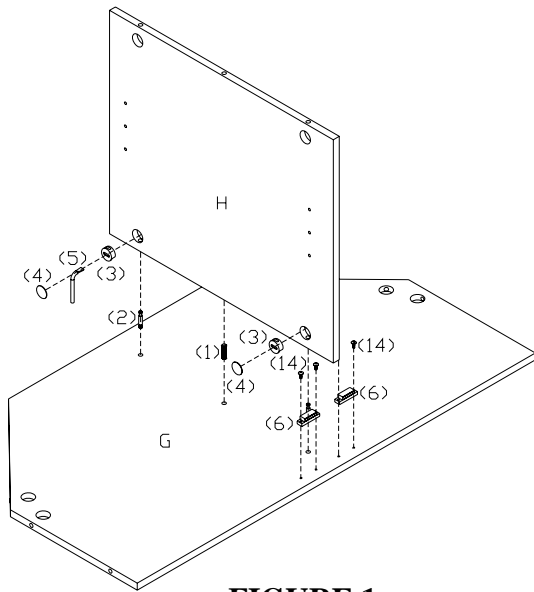

FIGURE 1
3. INSERT WOOD DOWEL (1), CAM-BOLTS (2) INTO PREDRILLED HOLES ON FIXED SHELF (G) AND FIT INTO CORRESPONDING HOLES ON EDGE OF DIVIDER (H). INSERT CAM-LOCKS (3) INTO LARGE HOLES ON DIVIDER (H) WITH ARROW FACING TOWARDS HOLE. ROTATE CAM-LOCKS (3) CLOCKWISE TO SECURE CAM-BOLTS (2) BY USING WRENCH (5). PUSH COVERS (4) INTO CAM-LOCKS (3). TIGHTEN PAN HEAD WOOD SCREWS (14) THROUGH ENDS OF MAGNETS (6) INTO PREDRILLED HOLES ON FIXED SHELF (G). AS SHOWN IN FIGURE 1.